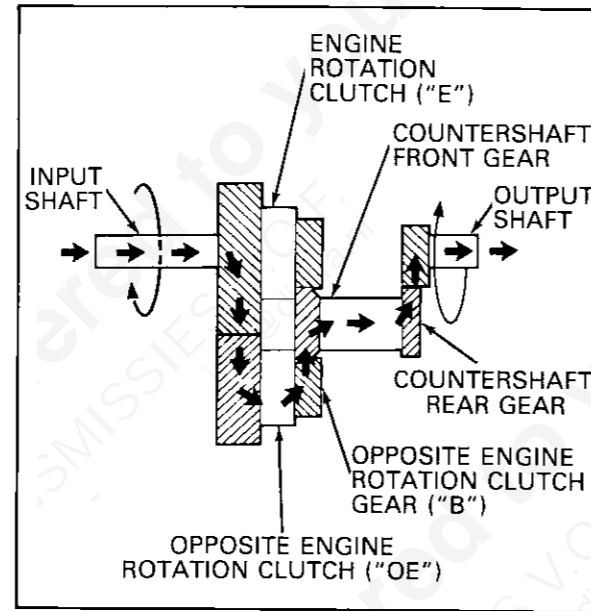

FIG. 5 POWER FLOW — OPPOSITE ENGINE ROTATION CLUTCH APPLIED
**POWER FLOW — OPPOSITE ENGINE ROTATION CLUTCH APPLIED (Refer to Fig. 5).**
The applied opposite engine clutch ("OE") is driven at engine RPM by the teeth on the outside diameter of the engine rotation clutch, but in a direction opposite to engine rotation, Figure 5. The "OE" clutch drives the opposite engine rotation clutch gear at the same RPM as the engine, but in a direction opposite to engine rotation. The opposite engine rotation clutch gear ("B") drives the countershaft front gear, the countershaft, and the countershaft rear gear, in the direction of engine rotation. The countershaft rear gear drives the output gear and shaft in a direction opposite to engine rotation and at a reduction speed ratio which depends upon the gears used in the unit.